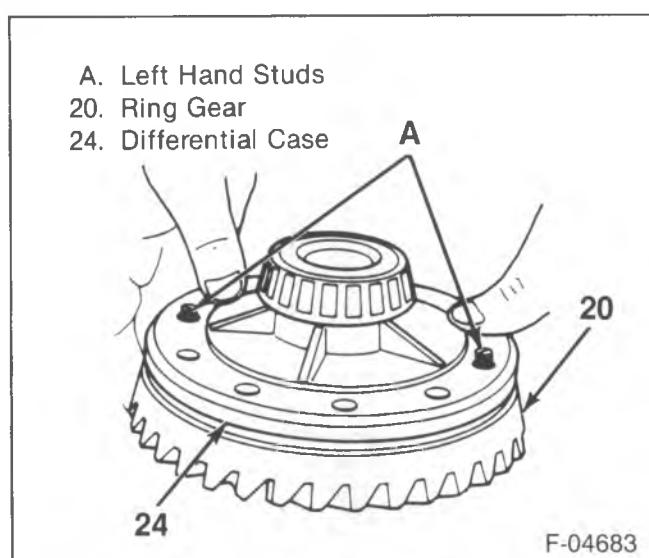

Figure 18—Aligning the Ring Gear Studs
- Side gears (33) to the differential case (27).
- Pinion gears (31) to the differential without the thrust washers (30).
- Pinion thrust washers (30).
- Ring gear (15) to the differential case (27).
- Place the ring gear onto the case, and align the holes in the case with the studs (figure 18).